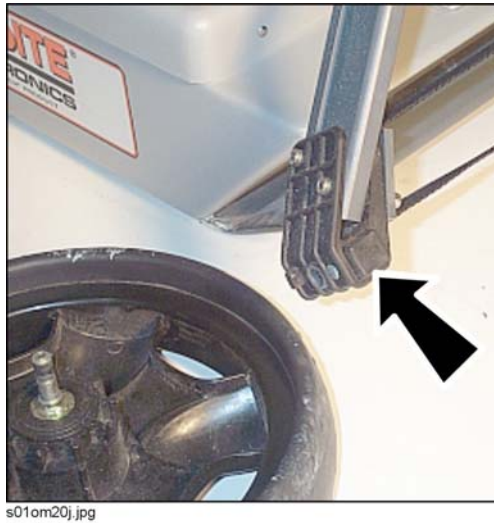

Fig. 4-9 – Removing the trolley wheels
- To reinsert the wheel onto the axis, it is sufficient to push it into the support until the block clicks into place (Fig. 4-9).